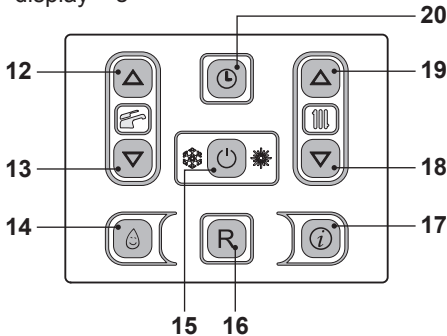

Fig. 2.7
Enter "programming mode" by holding down key 20 for 5 seconds (Fig. 2.7) until the display indicates the  symbol.
Use keys 18 (decrease) and 19 (increase) Fig. 2.7 to set the time, day and date values, using keys 12 and 13 to move from one parameter to the next.
- Press the key 15 for 2 seconds until both  and  symbols appear on the display Fig. 2.7.